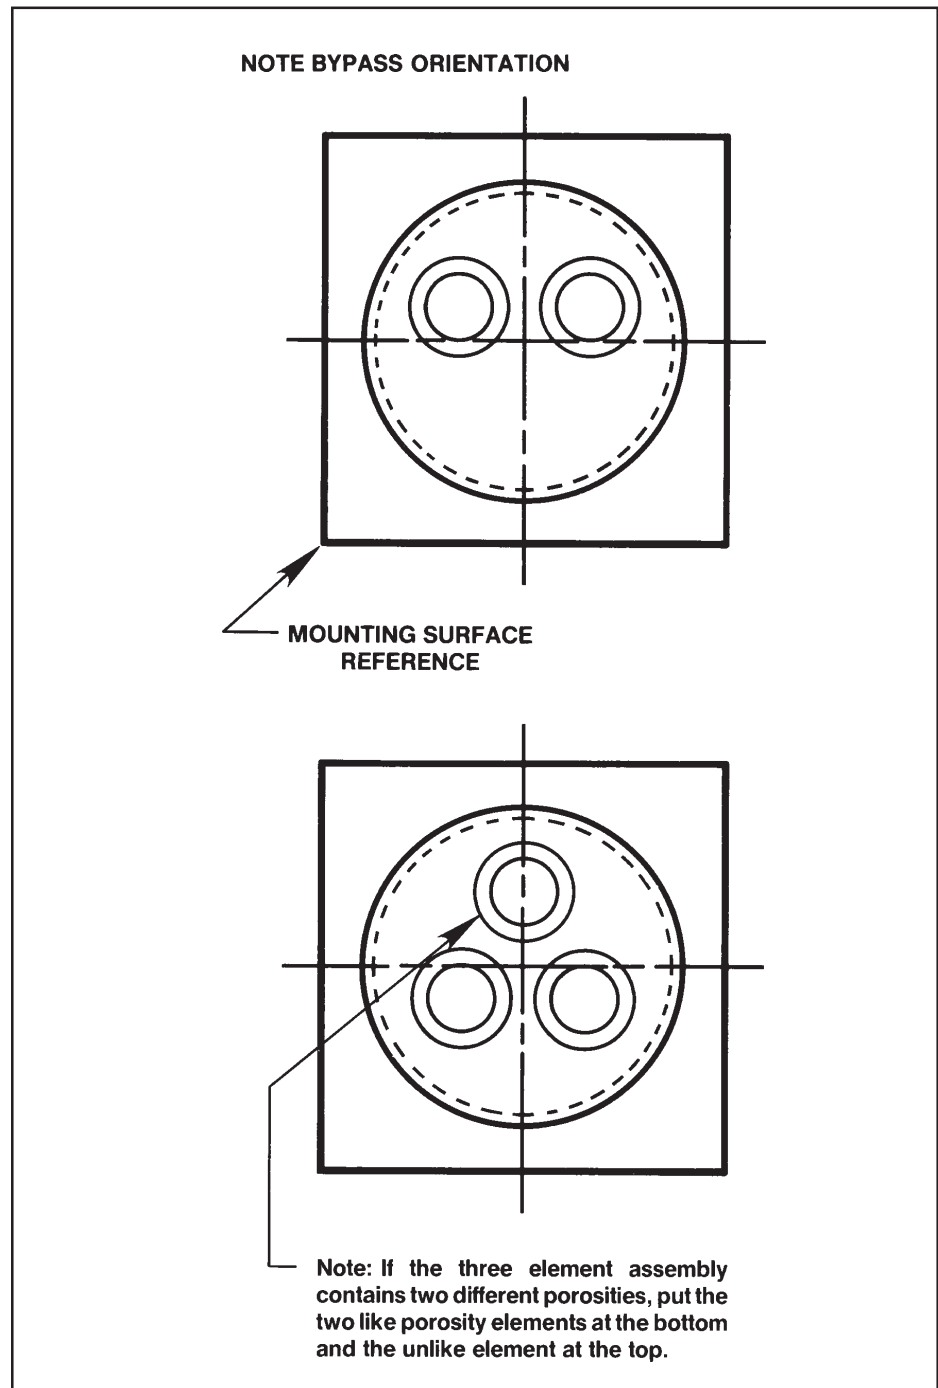

Figure 4-5 Model Mf51/61 Restrictor Element Orientation in Controller/Meter Body
3. Put a lightly lubricated O-ring on the header plate. The restrictor assembly can then be installed in the mass flow controller body (restrictor element(S) go in first). It is important that the restrictor assembly is put into the body in the correct orientation (Refer to Figure 4-5). Push this assembly in with your fingers. Do not use an arbor press or hammer to install the restrictor assembly. The restrictor assembly should be pushed in until it bottoms out. Do not force it beyond this point.